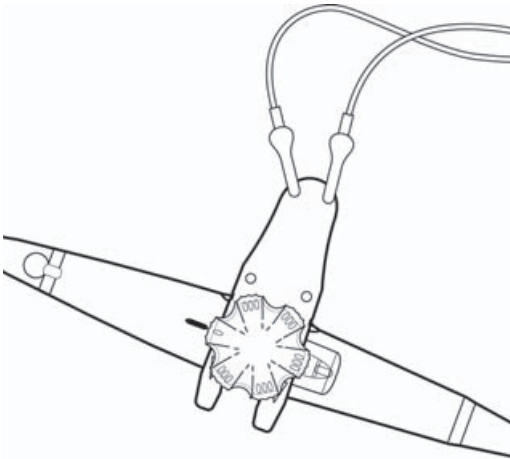

Figure 5-11 Puncture test tool attachment
- b** Connect the red leads to the puncture test tool as shown in **Figure 5-11**.